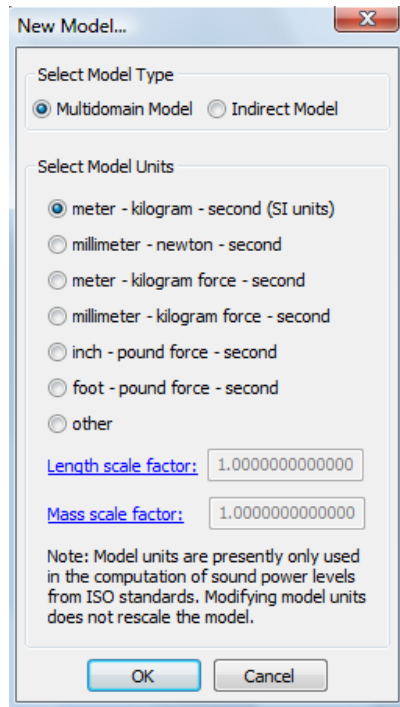

Figure A.4 New Model Selection Window.
- In the main menu select: **File** → **New Model**. The window in Figure A.4 will then appear.